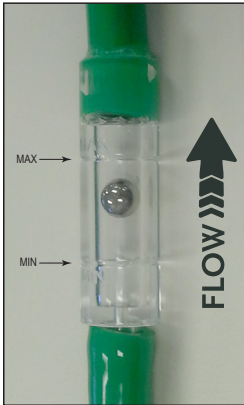

Figure 10. Ideal Ozone Flow Reading
8. Verify that the metal ball in the flow meter assembly floats between the Max and Min lines (Figure 10).